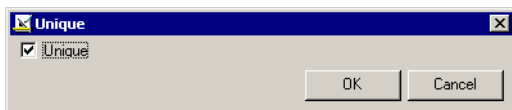

Figure 10: Unique Field Window
9. Similarly double-click on the **Unique** field in the New Template dialog box shown in Figure 10 to open the Unique field window.